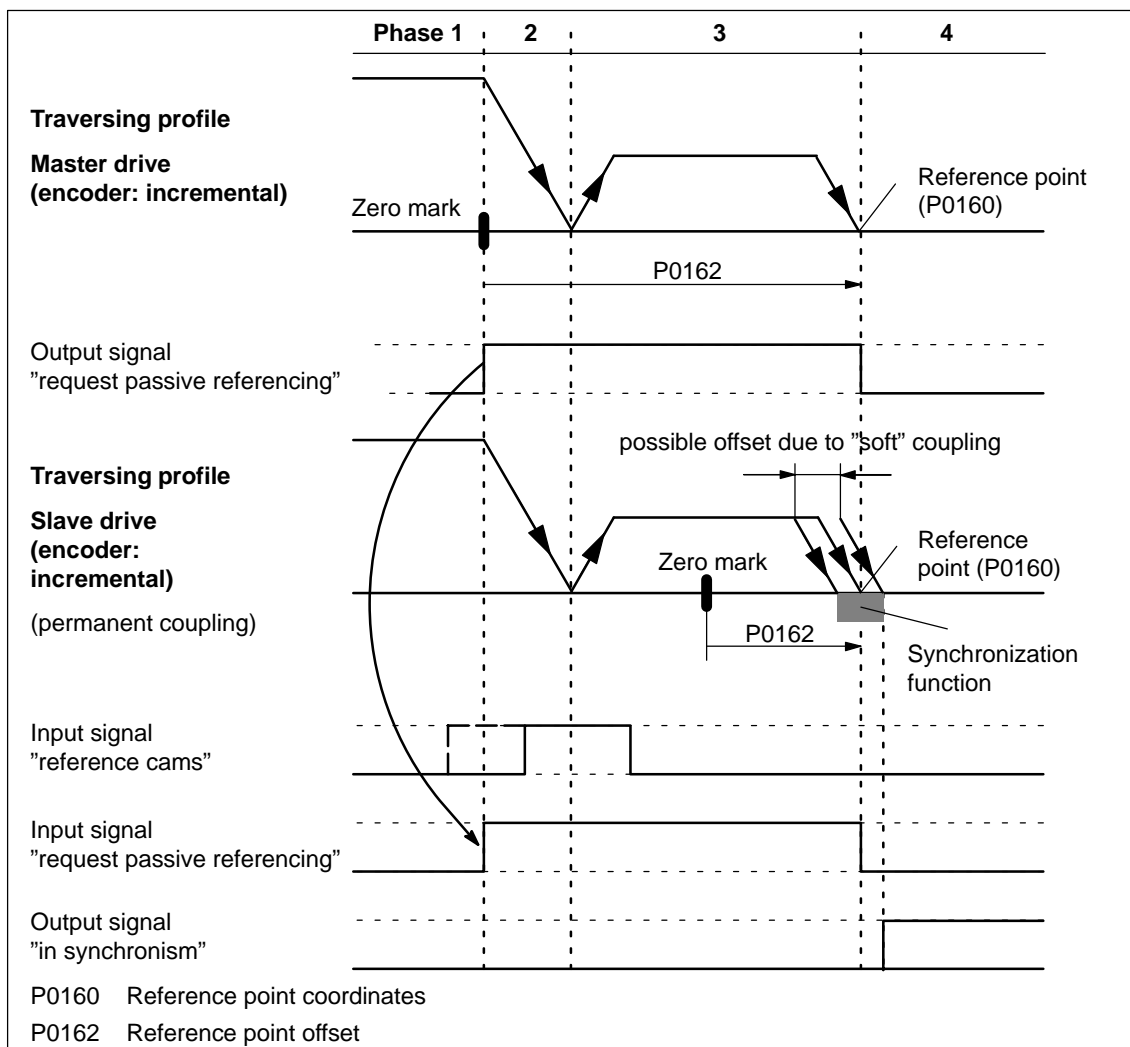

Fig. 6-37 Sequence when passively referencing (master and slave drive with incremental encoder)
1. Carry-out passive referencing as usual (Fig.6-37).